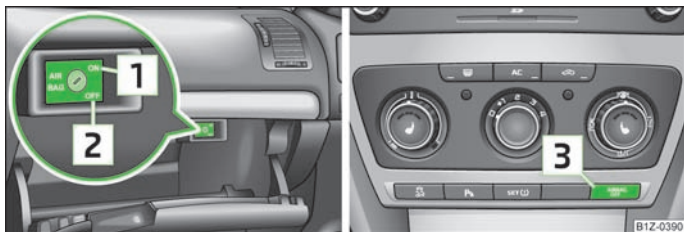

Fig. 123 Storage compartment: Switch for the front passenger airbag/indicator light for the deactivated front seat passenger airbag
- › The deactivated airbag is indicated by the illumination of the indicator light **AIRBAG OFF** in the middle of the dash panel » Fig. 123 **3**.
- › Use the key to turn the slot of the key switch into the position **2** (OFF) » Fig. 123.
- › Use the key to turn the slot of the key switch into the position **1** (ON) » Fig. 123.
The airbag indicator light is located in the middle of the dash panel » Fig. 123 **3**.